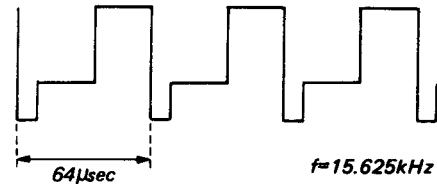

Fig. 3-18
When 12 V is supplied from the TEST 12 V IN, TC 4069UBP oscillates a horizontal sync frequency of 15.625 kHz and the waveform shown in Fig. 3-18 is supplied to the RF modulator from the VIDEO OUT (RF).